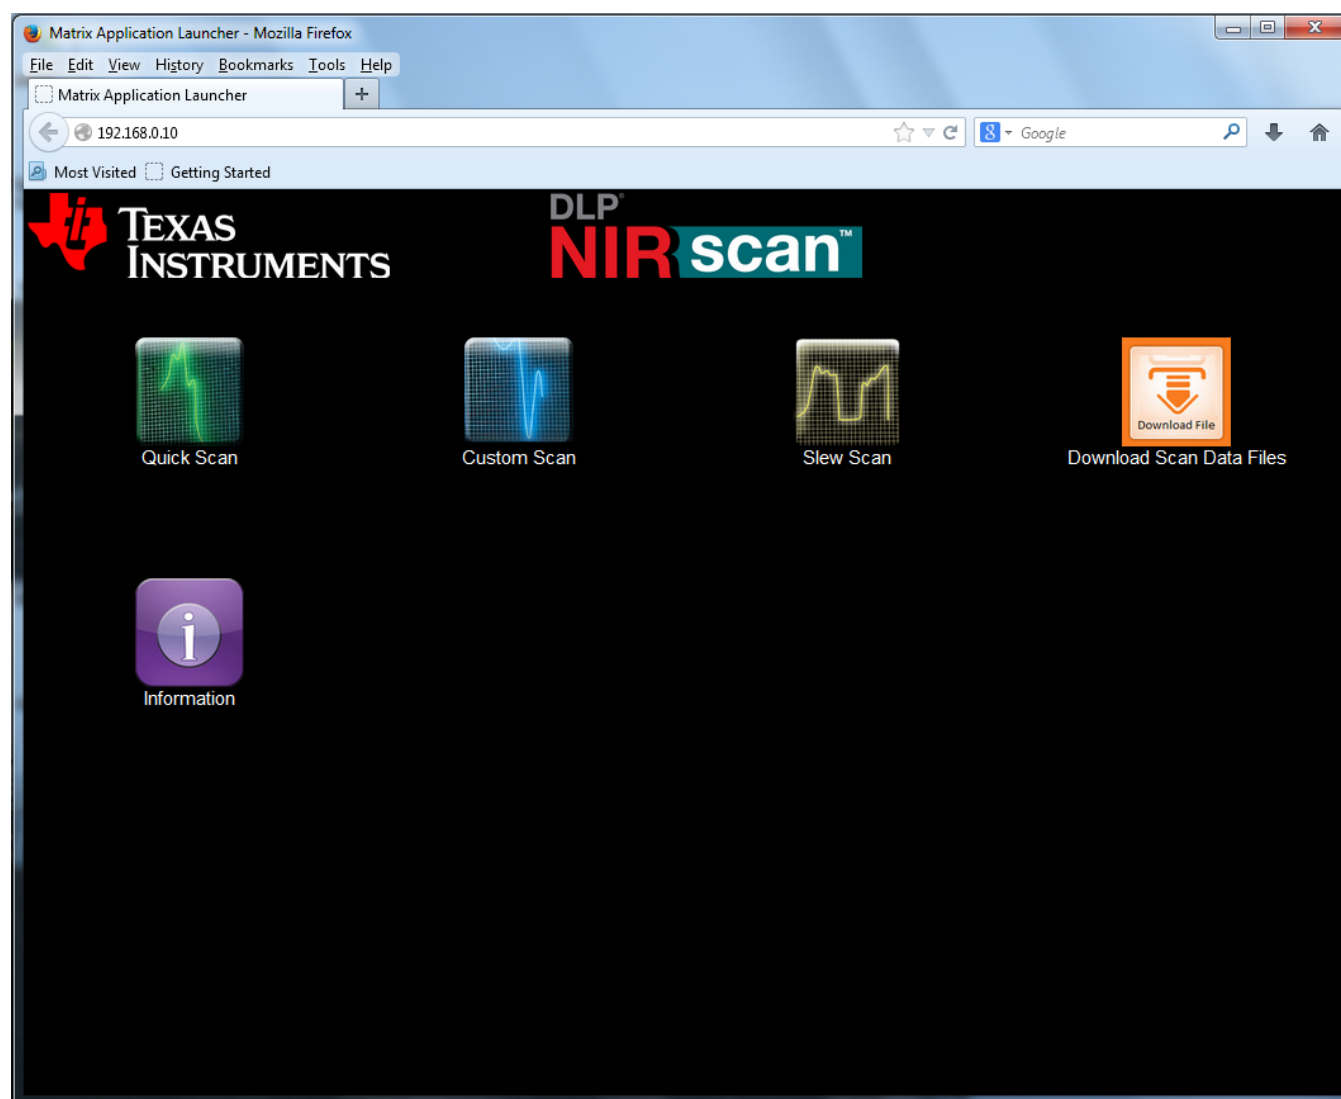

Figure 2-1. DLP NIRscan Homepage
6. When connected to the DLP NIRscan, the NIRscan Home Screen should display in the browser window (see Figure 2-1).